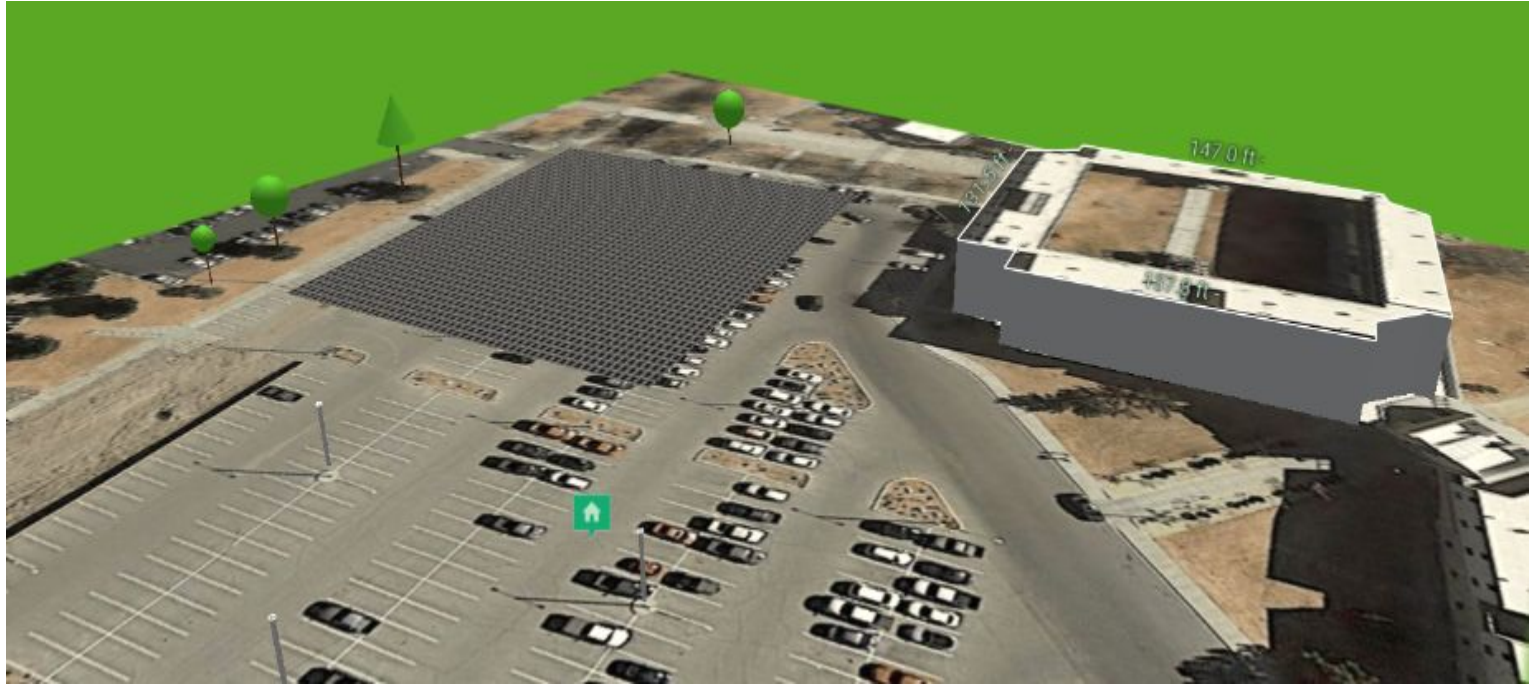

Figure 3: Student Union Parking Structure Design
- b. Student Union parking structure [Figure 3]